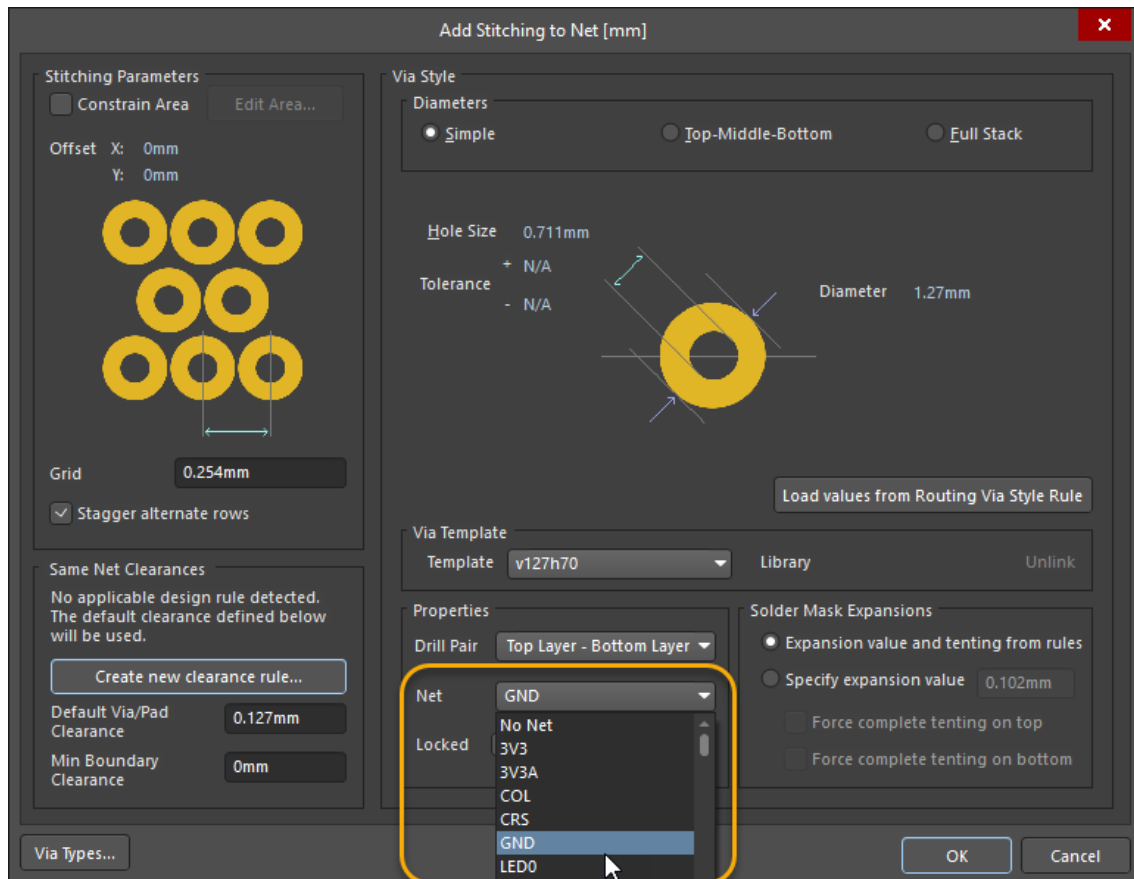

Figure 5. Adding Stitching to Net Menu
25. In the *Add Stitching to Net* dialog, select the *Net* dropdown and select **GND**, Figure 5.